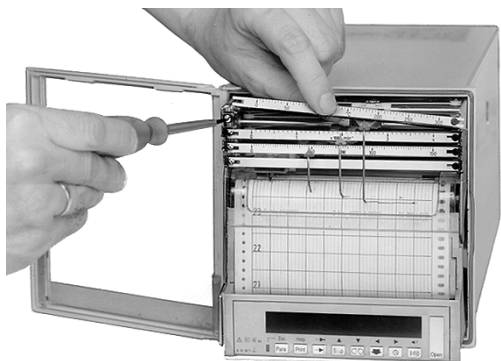

Figure 18 Replacing scales
5. Remove the scales to the left (see Figure 18).